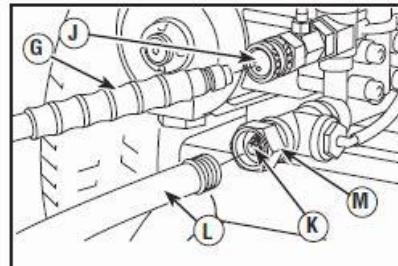

Fig. 8
2. Similarly, attach other end of high-pressure hose (G) to high-pressure outlet (J) on pump. Pull down on collar of quick-connect, slide onto pump and let go of collar. Pull on hose to be sure of tight connection. (See Fig. 8)
1. Inspect garden hose inlet screen (K) for damage. (See Fig. 8)
2. Run cold water through garden hose (L) for 30 seconds to clean out any debris.
Garden hose length must not exceed 50 ft. (15 m). Turn off water supply and attach garden hose to water hose inlet (M). Tighten by hand. (See Fig. 8)